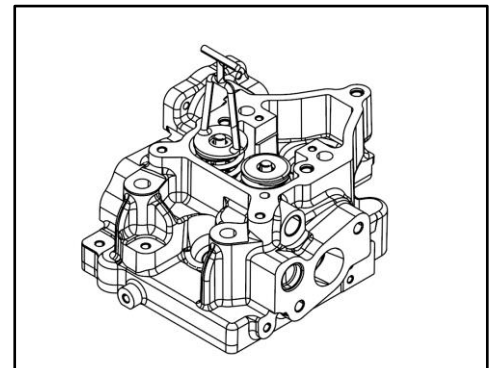

Fig. 10.15
4. Compress spring with tool no. T-09-00-0063 and insert locks (Fig. 10.15), Make sure the collets are properly seated by few taps on valve stem ends.